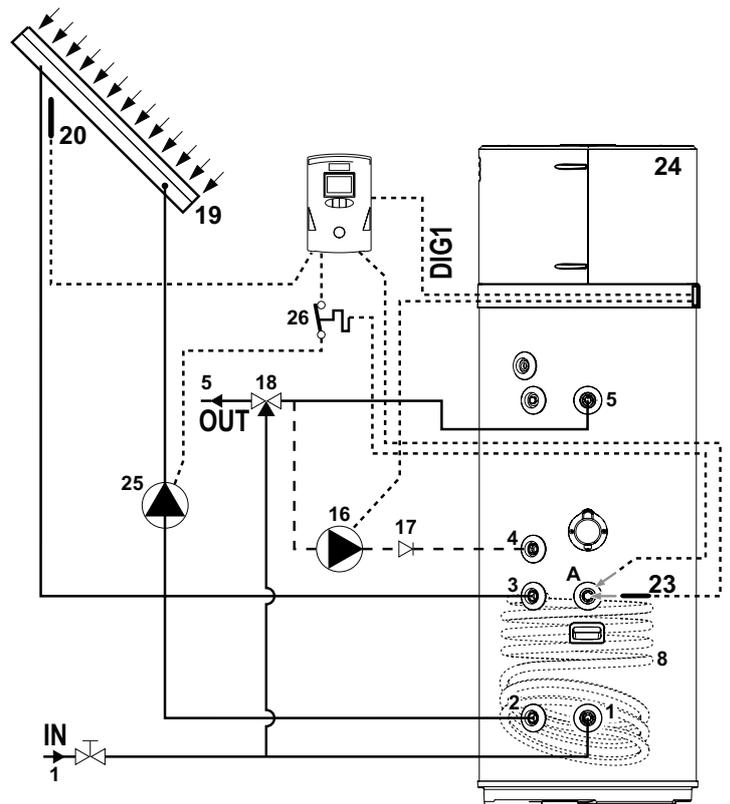
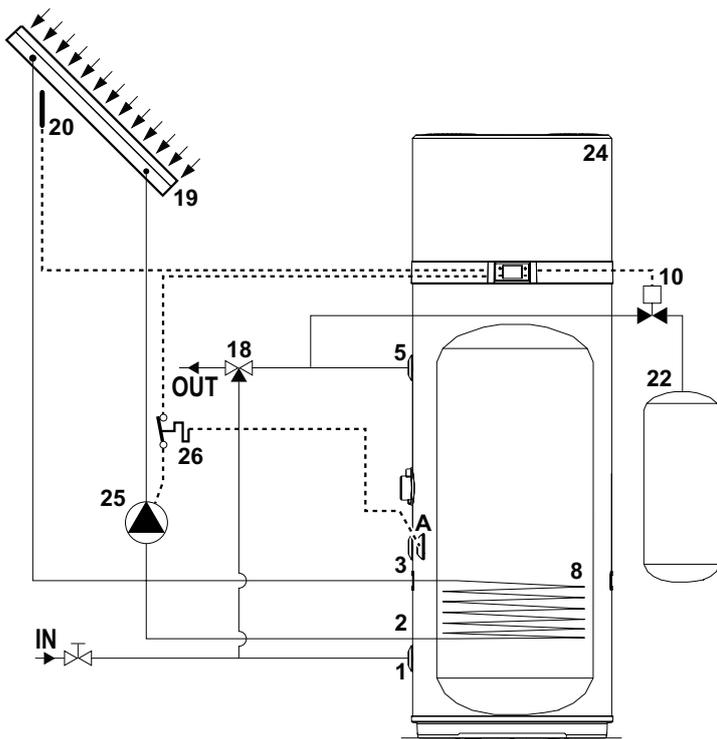
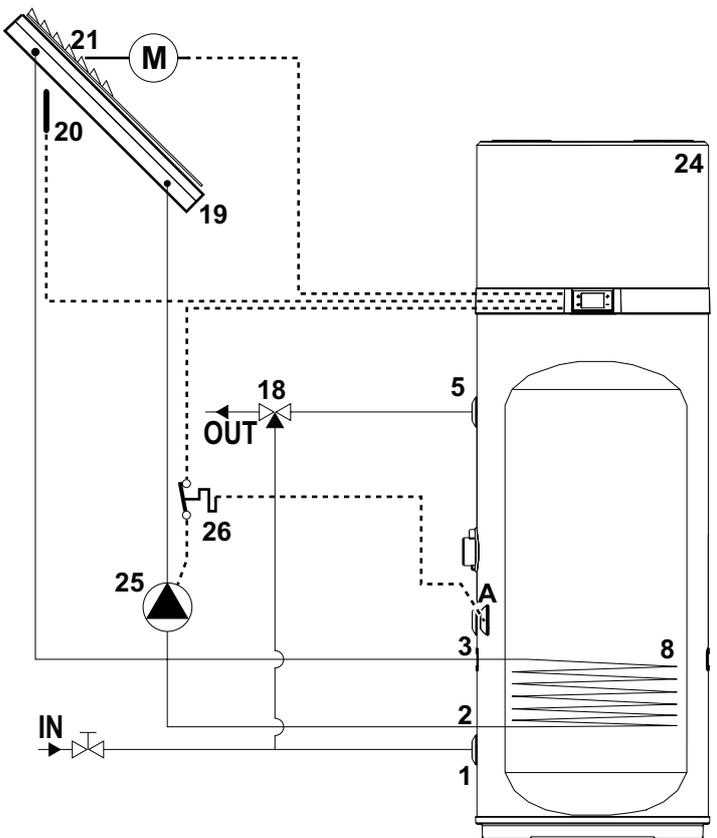

fig. 19
fig. 20
fig. 21
The following figure (fig. 19) shows how to connect the equipment to a solar thermal system controlled by a dedicated electronic controller (not supplied) that has a "voltage-free contact" type output to be connected to the DIG.1 input of the equipment (see "6.7.1 Remote connections").
The following figures (fig. 20 and fig. 21) show how to connect the equipment to a solar thermal system controlled directly by the latter, without the aid of a dedicated electronic controller.
In the configuration of fig. 20, in case of solar collector overtemperature a drain valve (not supplied) is activated to discharge in a DHW storage tank (puffer) hot water contained in the equipment.
In the configuration of fig. 21, however, in this condition the solar collector shutter is closed.
**Legend (fig. 19, fig. 20 and fig. 21)**